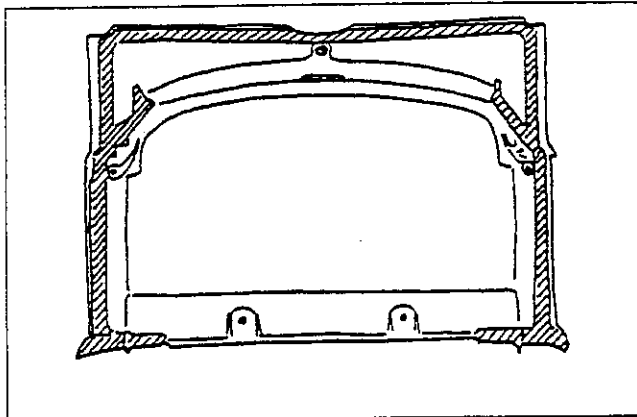

Figure 7. Front
8. Install threaded stems in the tapped holes in the left and right back edges of the stove front. Cement all mating surfaces on the stove front as shown in **Figure 7**. Put the air manifold in position on the inside of the stove front and secure with one hex bolt, 1/4-20 x 2" long.